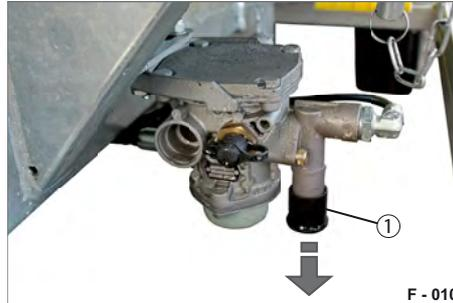

Fig. 9 Service brake in drive position
- ▶ Pull the release valve (Fig. 9/1).